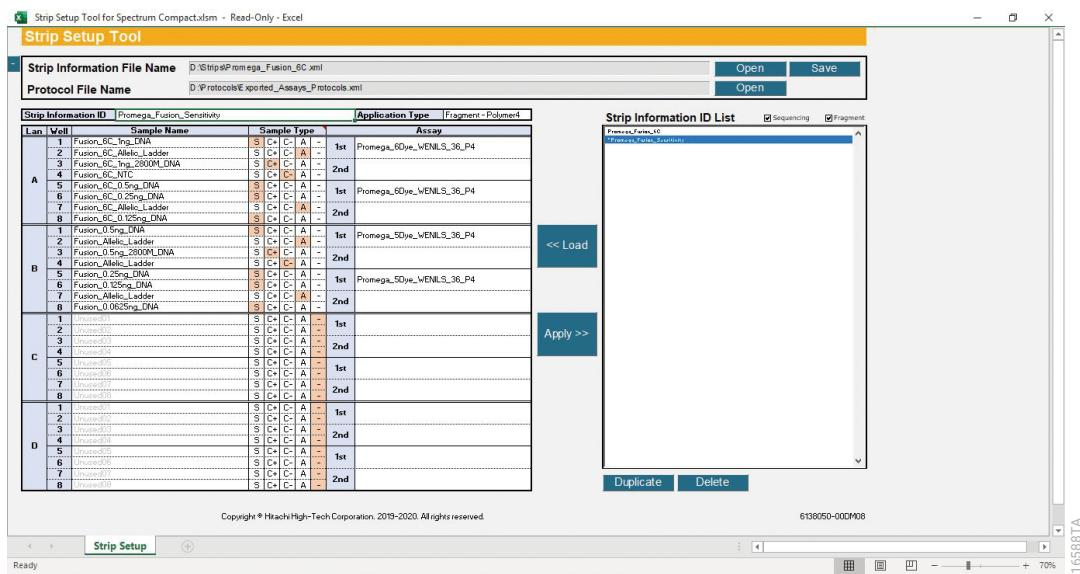

Figure 254. Strip Setup Tool for Spectrum Compact with new strip in Strip Information ID List.
5. Select **Apply** to move the newly created strip information to the 'Strip Information ID List'. The name of the newly created strip will appear in this list (Figure 254).